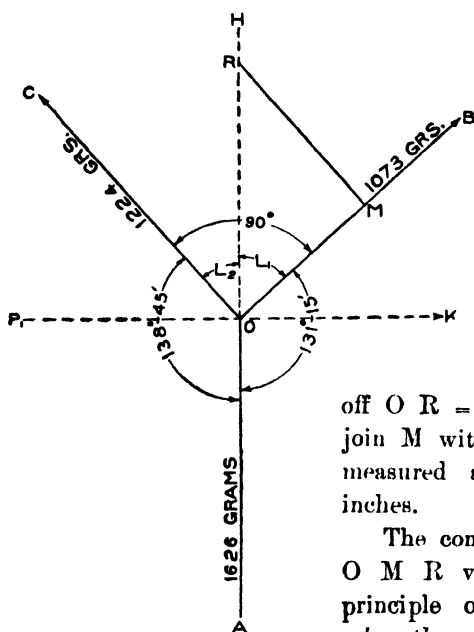

Fig. 18.
Three spring balances were attached to ropes which were connected at O as in Fig. 18. The balances were drawn back and
From Fig 18, $\angle ORM = \angle COR = 180^\circ - \angle COA$
1 Find the resultant of O A = 1626 grams; and O B = 1073 grams of figure 18.
For example: Resolve the forces OC and OB , Fig. 18, into their components along and perpendicular to the direction GOA . Let x_1 and x_2 be the components of the forces OC and OB along OA , and y_1, y_2 those at right angles.
1. Resolve $OA = 1626$ and $OB = 1073$, Fig. 18, into their components along and perpendicular to OC . Compare with resultant found in article 30.
3. Given three forces of 1626 grams 1224 grams and 1073 grams acting at a point. The system is in equilibrium. Find the angles at which the forces act with reference to each other. Compare the results with those given in Fig. 18, as measured by the protractor.
Since the forces are in equilibrium they will form a triangle if properly placed, such as $\triangle ROM$, Fig. 18. The problem requires the solution of $\triangle ROM$ for the three angles. From them, we obtain angles AOB , BOC , COA .